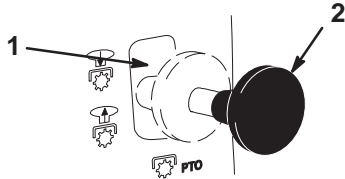

Figure 8
3. Push the blade control (PTO) to Disengaged (Fig. 8).